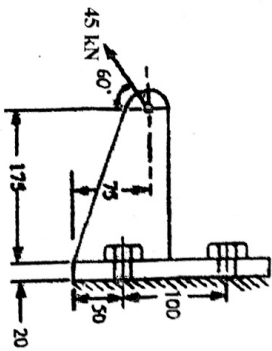

Fig. No. 1.
- Design an offset link for a load of 1000 N . Maximum permissible stress in tension for link material is 60 N/mm^2 . Assume $b = 3t$ for rectangular cross section of the link. Refer Fig. No. 1.